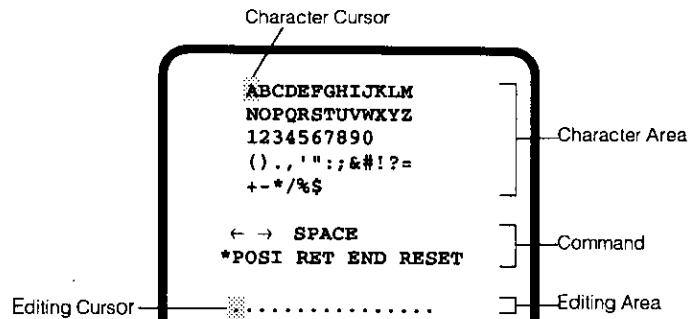

Fig.15.
- Move the cursor to the "CAMERA ID" position and press the Page Button (PAGE) to display the Character Editing menu as shown in Fig.15.